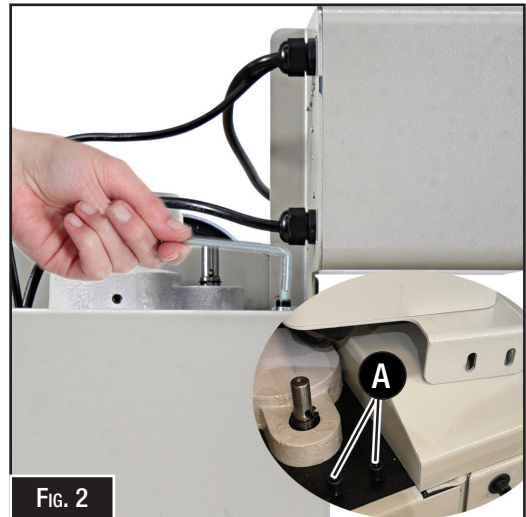

FIG. 2
1. Locate the two threaded holes on the upper left side of the machine (A) as shown in Fig. 2.